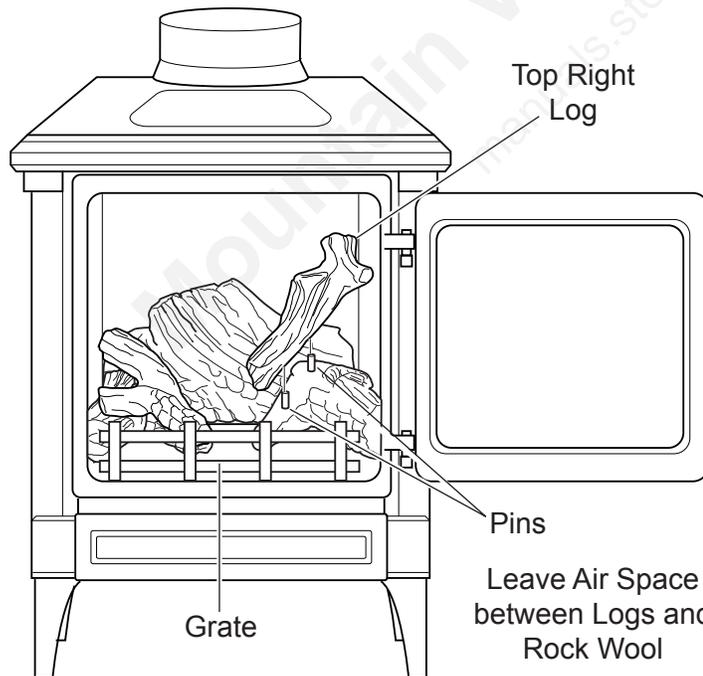

Figure 35 - Installing Top Right Log and Rock Wool
7. Place top right log on right base log. Line up the holes in the bottom of the top log with the locating pins on the bottom log. See Figure 35.
8. Break up rock wool (ember material) into dime-sized pieces. Place evenly across burner surface and mesh of grate. See *Figures 35 and 36*. Do not exceed 1" depth of coverage.